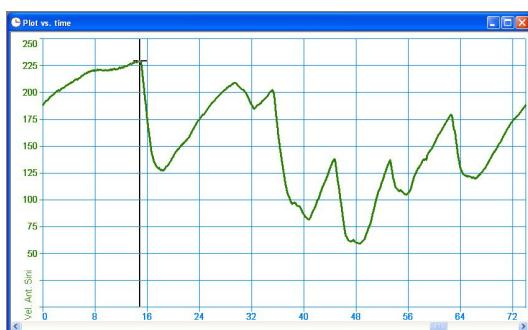
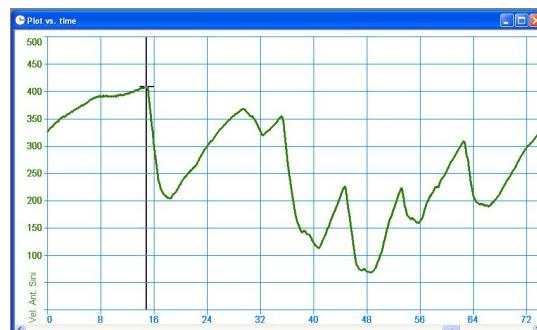

Fig. 4.9– Speed channel: no modify
Fig. 4.10– Shifted and amplified graph
In the following Figures 4.9 and 4.10 it is reported an example of a shifted and amplified graph.
- Figure 4.9 shows a “no modified” Formula Renault 2000 speed channel. The vertical cursor is placed in the maximum speed track position: the maximum speed is 230 km/h (about 145 MPH).
- Figure 4.10 shows the same channel which has been amplified by 2 (i.e. A = 2) and shifted down by 50 (i.e. B = -50); the graph scale has also been modified, as described in chapter 4.6.1, in order to show the complete graph. The vertical cursor is placed, as in Figure 4.9, in the maximum speed track position: this time the speed reported on the graph is 410 km/h. If you try to calculate the maximum speed using the “Value = (Value*A)+B” formula, you get the following result: $(230*2)-50 = 410$ km/h.